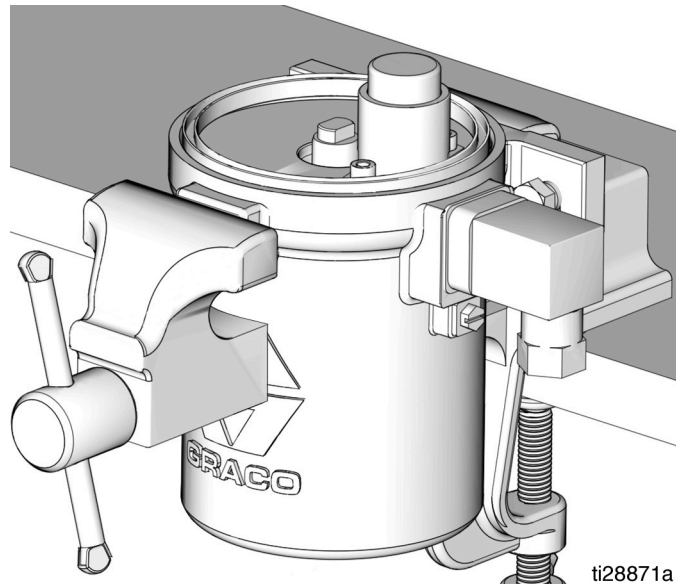

FIG. 36
12. Reposition the air motor cylinder in vise to access the top of the air motor cylinder as shown in FIG. 36.